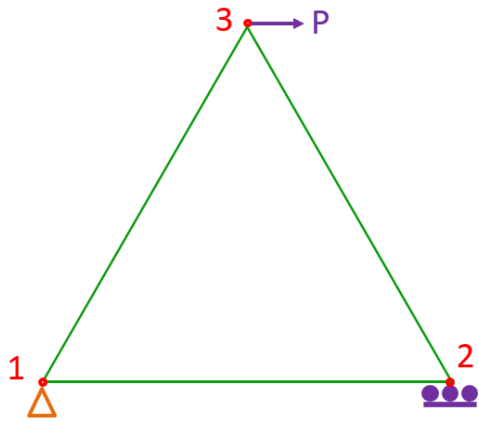

Figure 2: Equilateral truss problem
5. Consider the equilateral plane truss problem discussed in class, and shown in Fig. 2. The members are all of length L and the cross-sectional properties EA .